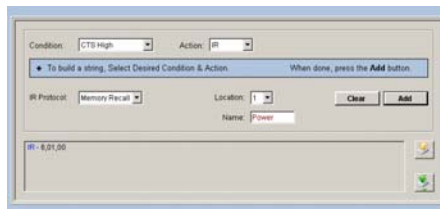

Figure 9 – IR Memory Recall
- When done, the user clicks the **Add** button to append the command to the existing user string as shown in Figure 9.